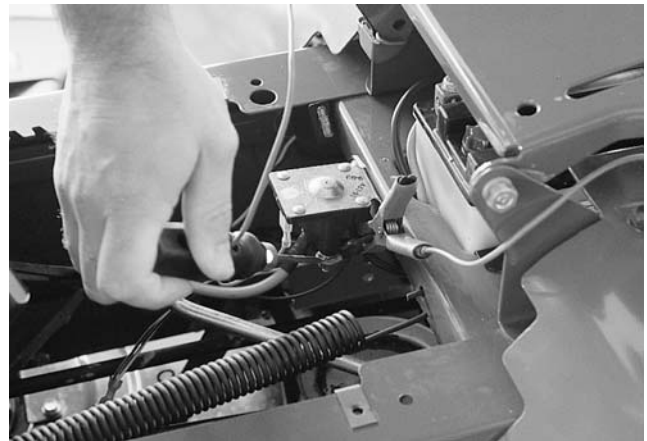

Figure 3-23.
6. Clamp the test light to the base of the solenoid. Touch other probe to the positive terminal of the solenoid. It should show voltage. See Figure 3-23.